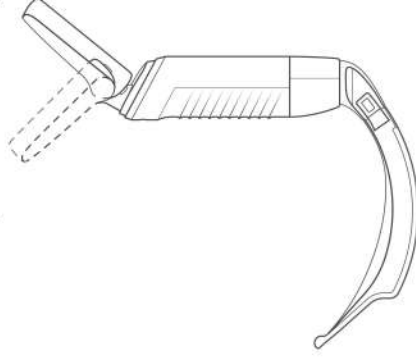

Fig.4 Rotary angle of display screen
- During use, the rotary angle of display screen could be adjusted (the biggest rotary angle is 85°) to adapt different use, environment and angle. (as is shown in Fig. 4)